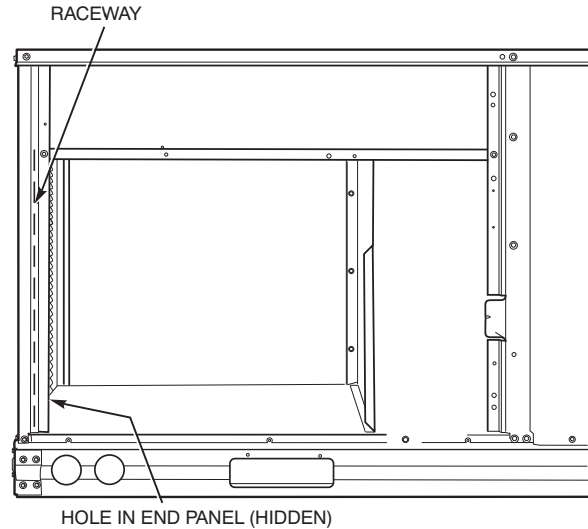

Fig. 34 — Field Control Wiring Raceway
Pass the thermostat control wires through the hole provided in the corner post; then feed the wires through the raceway built into the corner post to the control box. Pull the wires over to the terminal strip on the upper-left corner of the Unit Control Board. See Fig. 34.
2. Feed wires through the raceway built into the corner post (see Fig. 34) to the 24v barrier located on the left side of the control box. The raceway provides the UL-required clearance between high-voltage and low-voltage wiring.
2. Feed wires through the raceway built into the corner post (see Fig. 34) to the 24-v barrier located on the left side of the control box. The raceway provides the UL-required clearance between high-voltage and low-voltage wiring.